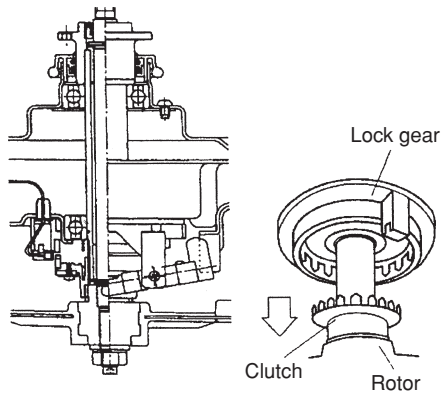

Fig.2 Clutch condition during spinning operation
- 2) When spinning operation is performed, the teeth on the bottom of the clutch fit into the teeth of the boss on the lower part of the product (on rotor side). Fig.2